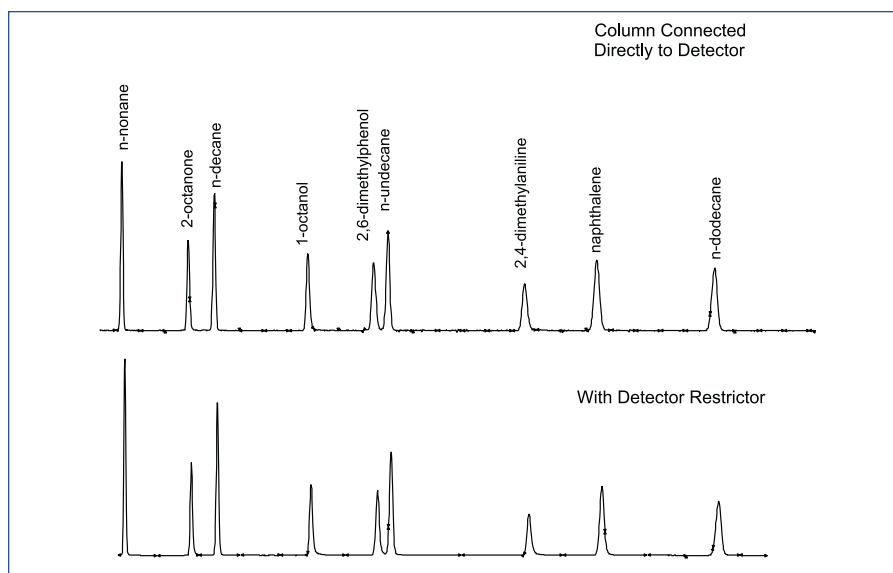

Figure 6. PreVent is totally inert and does not affect peak shape.
- PreVent is user installed within five minutes and is simple to set up and operate. It is inert (Figure 6) and compatible with fast chromatography.